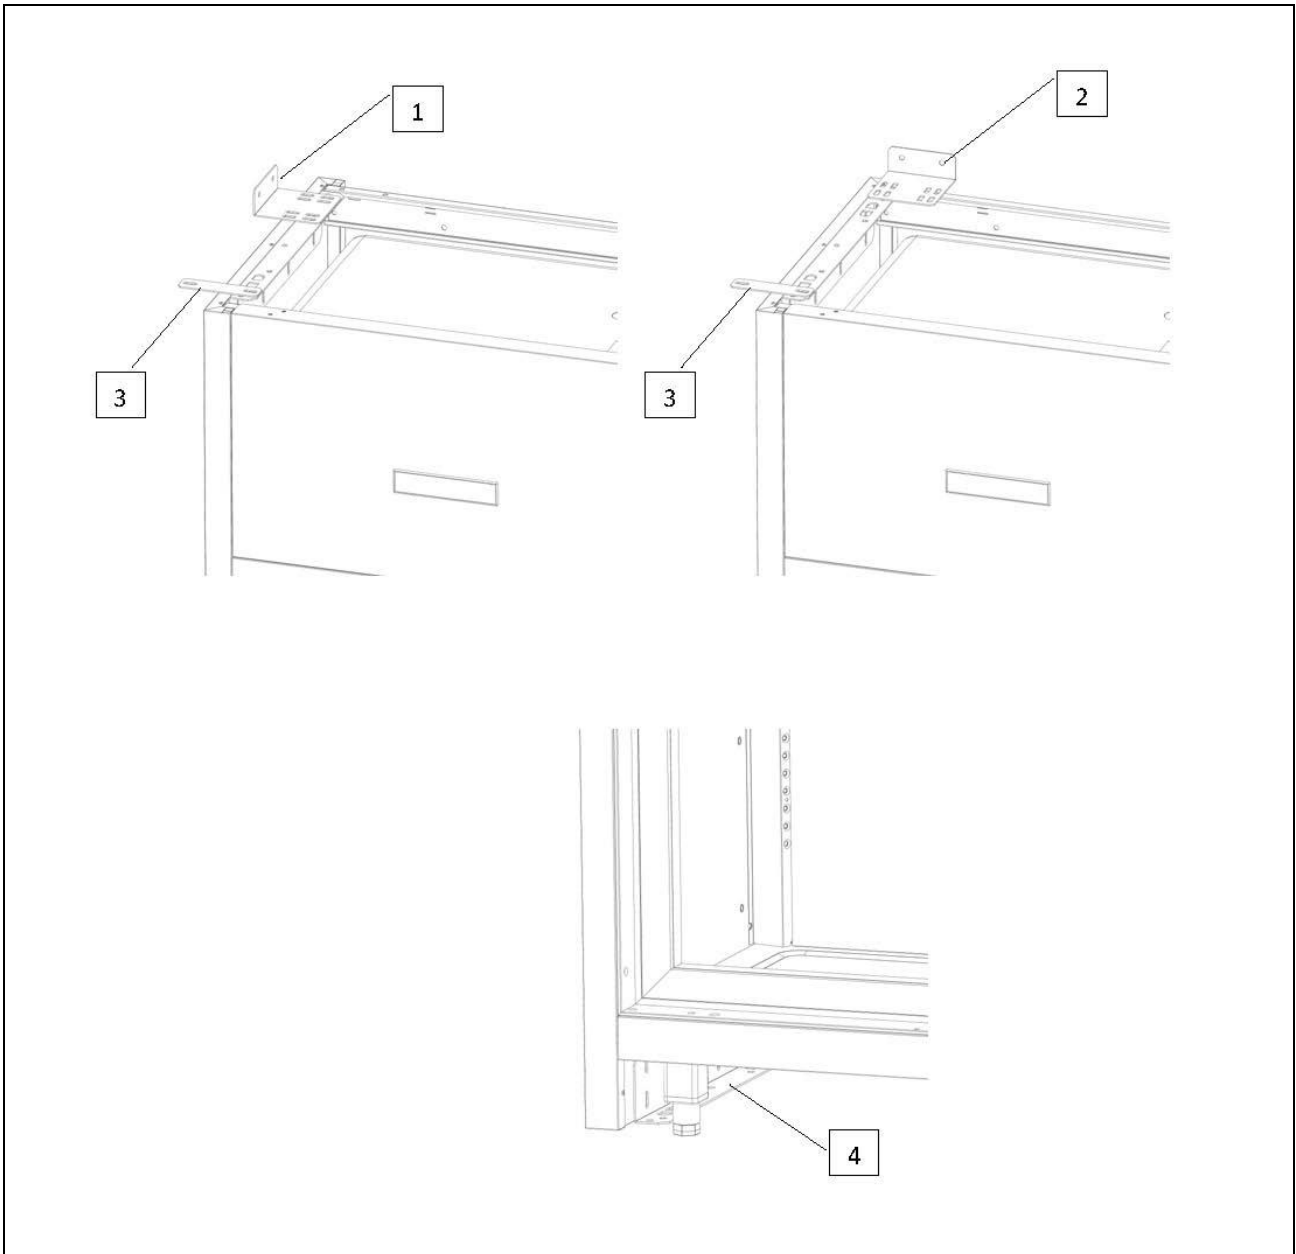

Fig. 4
- at the side, both right and left, with top bracket (ref. 1, fig. 4);
- at the rear, to the wall, with top bracket (ref. 2, fig. 4);
- to the floor, if possible, with side brackets (ref. 4, fig. 4);
- two or more appliances placed side by side must be fastened together with the connecting plate (ref. 3, fig. 4).
- Using the relative slot-in hooks (ref. 1 fig. 4), fasten the bottom plinth (no. 2 plinths if the Wine Library is pass-through), supplied separately, onto the appliance.